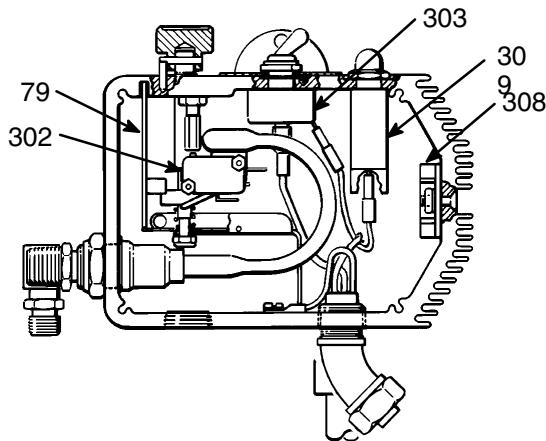

Fig 20-2
Disconnect the two leads from the motor to the bridge (308). *Refer to Fig 20-2.*